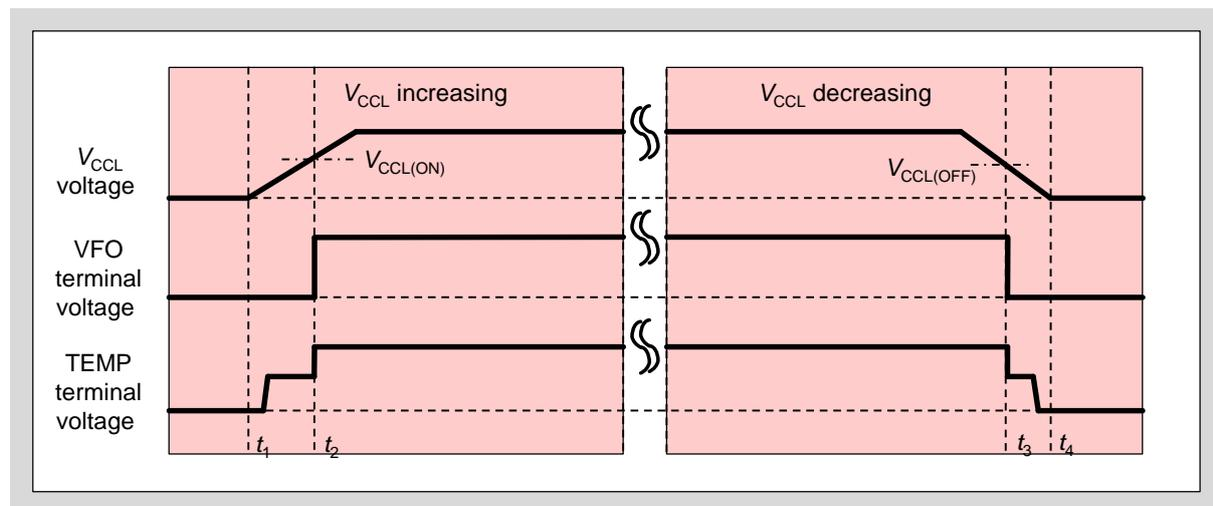

Fig.3-26 Operation sequence of TEMP terminal during LVIC startup and shutdown conditions
- Fig.3-26 shows the operation sequence of TEMP terminal at during the LVIC startup and shut down conditions.